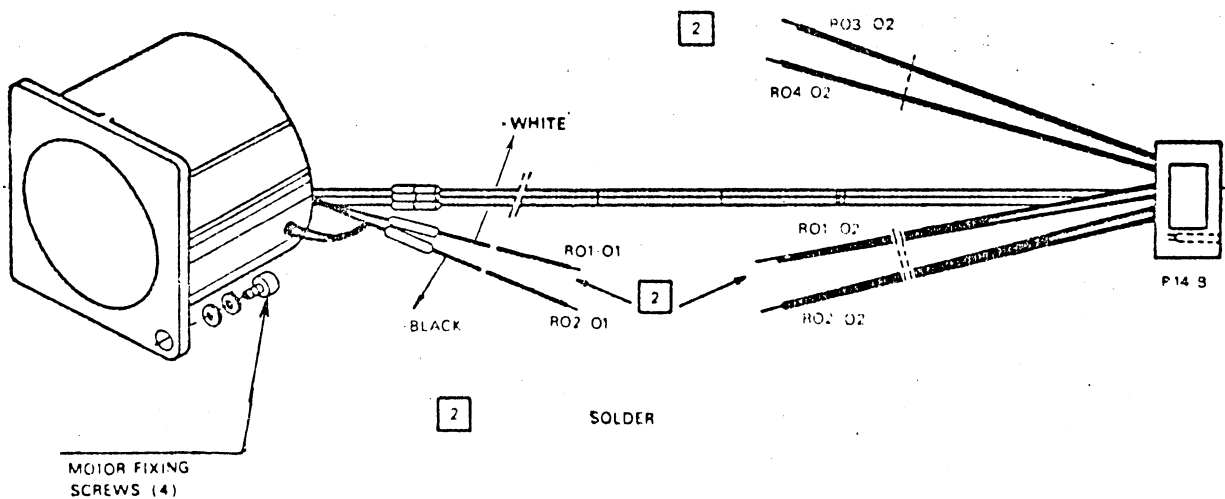

Fig. 7-13 MARA Mechanics Carriage Motor Assembly
- . Remove the four screws fixing the motor to its support (see fig. 7-13)
- Solder the connections on resistances R.01 - R.02 - R.03 - R.04 (see fig. 7-13)